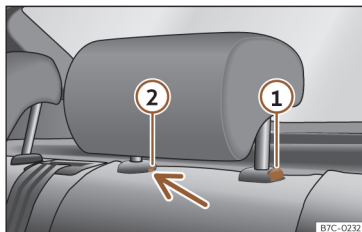

Fig. 107 Rear headrest: removal.
- Press button»» Fig. 107 ①, while simultaneously pressing on the security hole ② with a flat screwdriver a maximum of 5 mm wide, and remove the headrest.